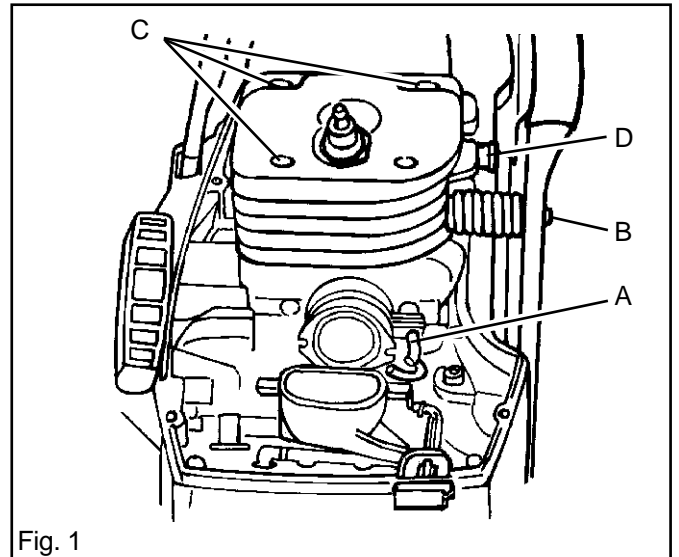

Fig. 1
2. Attach the springs to the cylinder with the help of a 4 mm Allen key. See fig. 1. Tighten the bolts to 10 Nm.
2. Remove the impulse hose (A) from the hole on the inlet manifold. See fig. 1.
3. Detach the anti-vibration springs (B) from the cylinder. See fig. 1.
4. Undo the four cylinder retaining bolts (C). See fig. 1.
9. Unscrew and remove the decompression valve (D). See fig. 1.